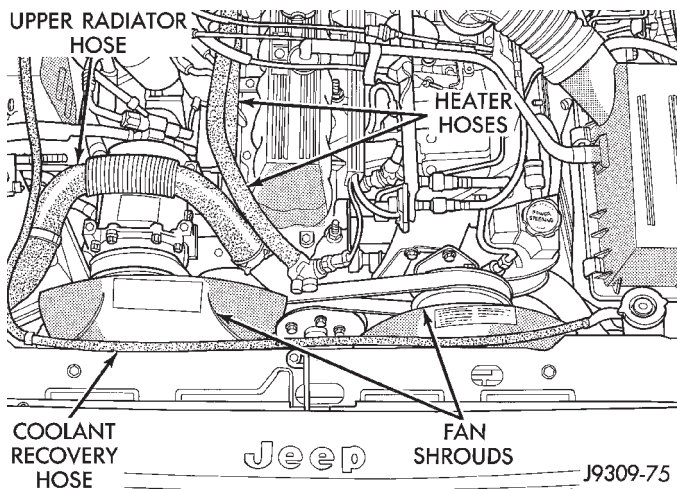
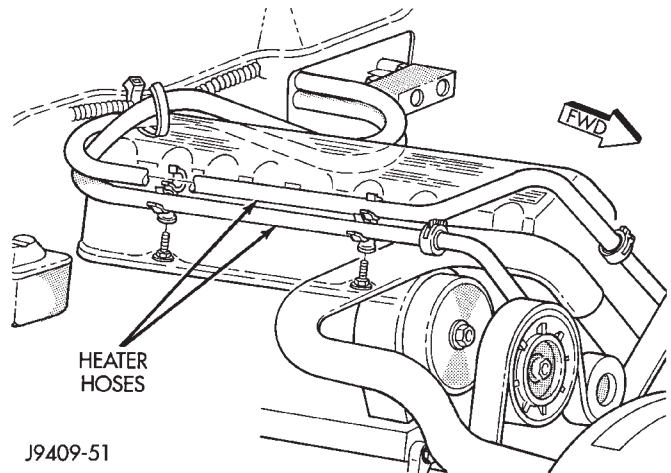

Fig. 27 Upper Radiator Hose, Coolant Recovery Hose, Fan Shroud & Heater hoses
Fig. 28 Heater Hoses (RH Drive Vehicle)
- (5) Remove the lower radiator hose.
- (6) Remove the upper radiator hose and coolant recovery hose (Fig. 27).
- (7) Remove upper radiator support retaining bolts and remove radiator support.
- (8) Remove the fan shroud (Fig. 27) and electric cooling fan.
- (9) Disconnect the transmission fluid cooler tubing (automatic transmission).
- (10) Disconnect radiator fan switch wire connector.
- (11) **Vehicles with Air Conditioning:**
- (12) Remove the radiator or radiator and condenser (if equipped with A/C).
- (13) Remove the fan assembly from the idler pulley.
- (14) Disconnect the heater hoses at the engine thermostat housing and water pump (Fig. 27) (Fig. 28).